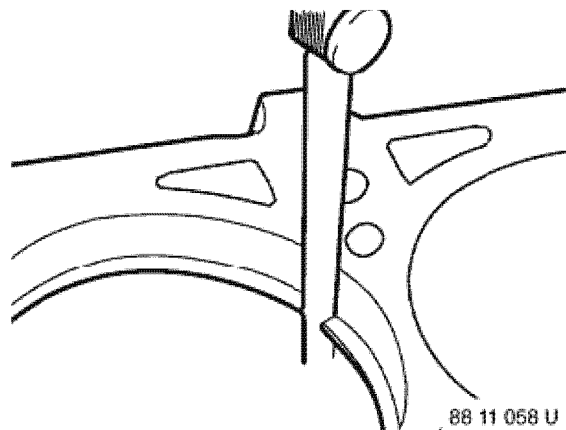

Figure 5-50
- Insert new piston rings, one at a time, into the cylinder. Use a piston with the piston rings removed to slide the ring squarely into the cylinder bore. Measure the end gap of each piston ring (Figure 5-50).